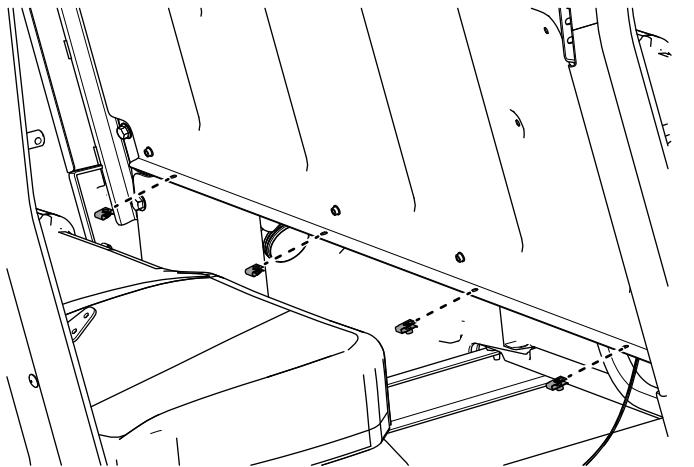

Figure 55
22. Install the 4 clips (1/4 inch) to the middle seat panel (Figure 55).